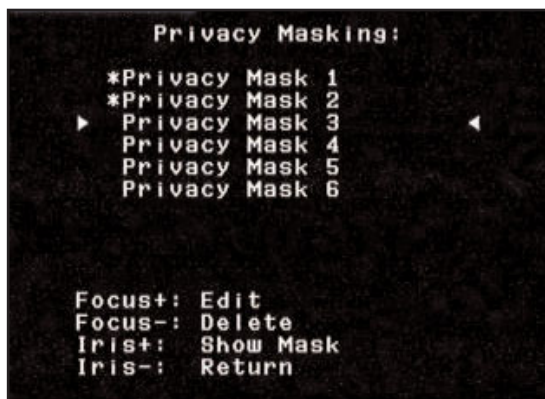

Figure 5A Privacy Masking menu
When entering the PRIVACY MASKING screen (ON-87-ENTER), a list of masks is displayed for on-screen selection. An * at the front of the line indicates that the mask is currently occupied, and if selected, the mask will be overwritten. The first available (unused) Privacy Mask is indicated by an arrow at the left margin, as shown below in FIGURE 5A.
2. Press ON-87-ENTER to enter the menu (as shown in FIGURE 5A). Use the joystick to scroll through the list of masks until the desired mask is highlighted. Press Focus+ to edit this mask.